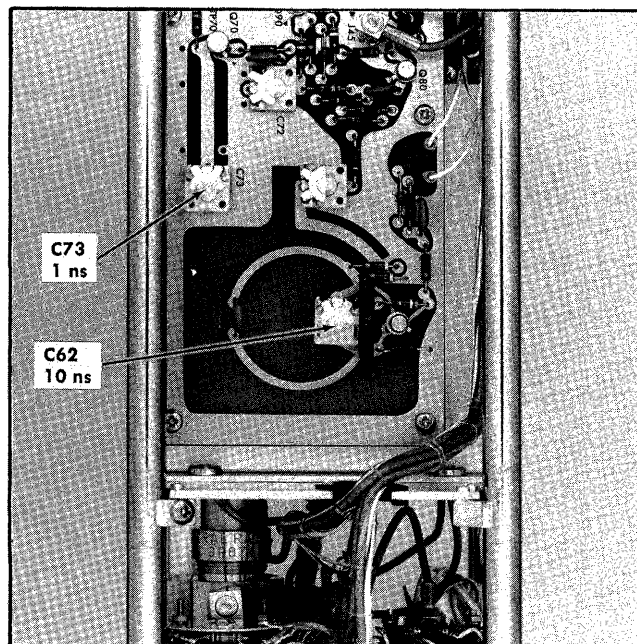

Fig. 6-18. Location of timing adjustments for steps 9 and 10.
f. Adjust C62 on the calibration board (Fig. 6-18 for location) to superimpose the Type 284 signal display (10 ns period or 100 MHz) with the Type 184 signal at the center of the graticule. Fig. 6-17B shows a lower frequency and a slight decrease in capacity of C62 is necessary. Fig. 6-17C shows a higher frequency.
- ### 10. Adjust 1 ns Sine Wave Period, C73 ①
- Adjust C73 on the Calibrator board (location shown in Fig. 6-18) so that the signal from the Type 284 is superimposed on the 1000 MHz signal display at the center of the graticule. To verify that you have the true 1000 MHz signal from the Type 284, change the RF Center Freq slightly to see if the combined signal display shifts together (tracks).